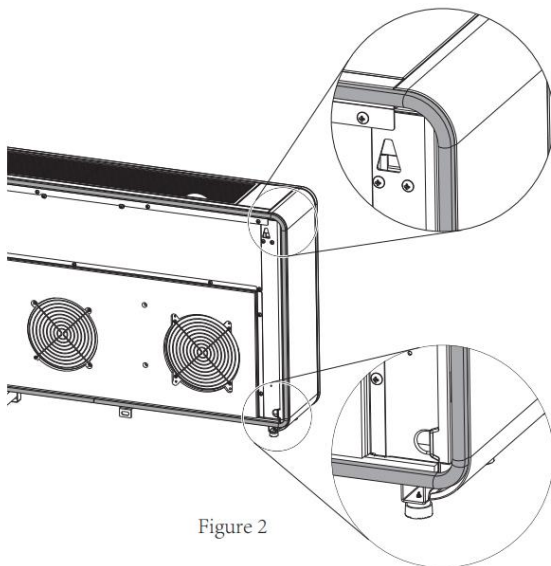

Figure 2
4. The position of the corner should be pasted as shown in Figure 2.